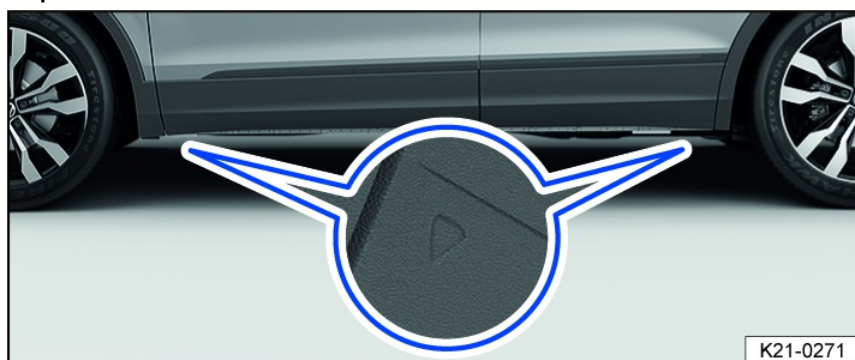

Fig. 219 Lift points for the vehicle jack (general example).
The vehicle jack must only be positioned at the reinforced areas on the underbody that are located behind the markings on the vehicle body *fig. 219*. Always use the lift point that is nearest to the wheel you are changing ⇒ ⚠.
2. Find the vehicle lift point fig. 219 under the vehicle that is closest to the wheel you will be changing.